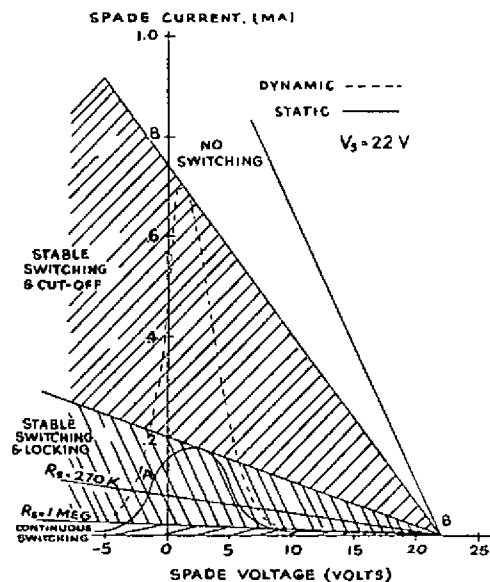

Figure 5
When the potential of all the spades is positive, the tube is in a cut-off or clear condition with no beam formed to any position. The beam may be formed in any of its ten "on" positions by sufficiently lowering the potential of the respective spade. A typical static beam forming and locking characteristic is shown in Figure 5, intercepted by a load line of  $R_S = 270K$ . This negative characteristic results in bistable points at A and B. Thus, the one spade forming and locking the beam is at near-cathode potential, point A, while the remaining ones are at a high positive level. In practice, either a DC potential or a very high speed pulse may be used to form the beam. The very wide range of reliability of the function of  $R_S$  is indicated in Figure 5.
A voltage drop on the switching grid will disturb the electric field so that enough of the beam is deflected to the leading spade to cause that spade to assume its other stable state (A). The beam will now be formed on this spade with the dynamic spade characteristic shown in Figure 5.